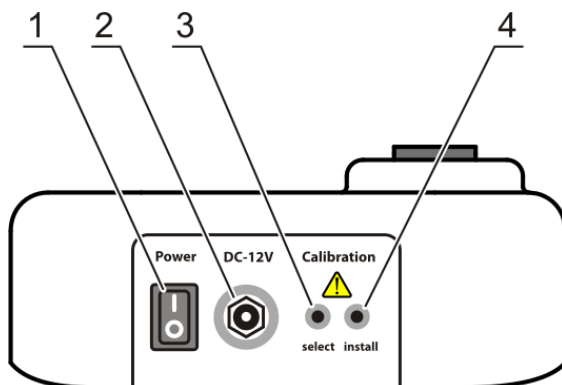

Figure 3. Back view
- Connect the external power supply unit into the socket at the rear side of the unit (fig. 3/2) and position the unit for an easy access to the external power supply and the power switch.
5.2. Connect the external power supply to electric circuit. Switch on the unit using the **Power** switch (fig. 3/1) on the rear panel. **DEN-1B** can operate without external power supply on battery power.
6.4. Connect the external power supply to electric circuit. Switch on the unit using the **Power** switch (fig. 3/1) on the rear panel.
6.5. Press the **Select** button (fig. 3/3) on the rear of the unit.
6.6.1. **Empty socket.** Display shows $\cdot\cdot\cdot$ indication. Press **Install** button (fig. 3/4) to save empty socket value. Display shows next required calibration value.